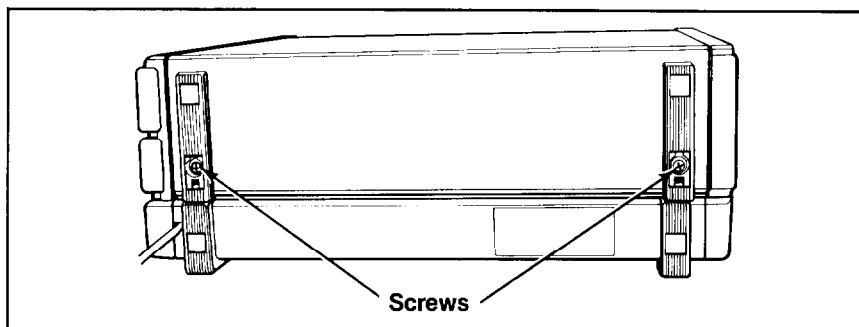

Figure 5-2. Side screws under plastic inserts
3. The top cover is secured by two screws on each side of the computer as shown in Figure 5-2. With the back of the unit facing you, the two screws on the left side of the unit are covered by small plastic inserts. Gently remove the inserts with a small screwdriver, then remove the screws on both sides of the computer. Put all the screws safely to one side.